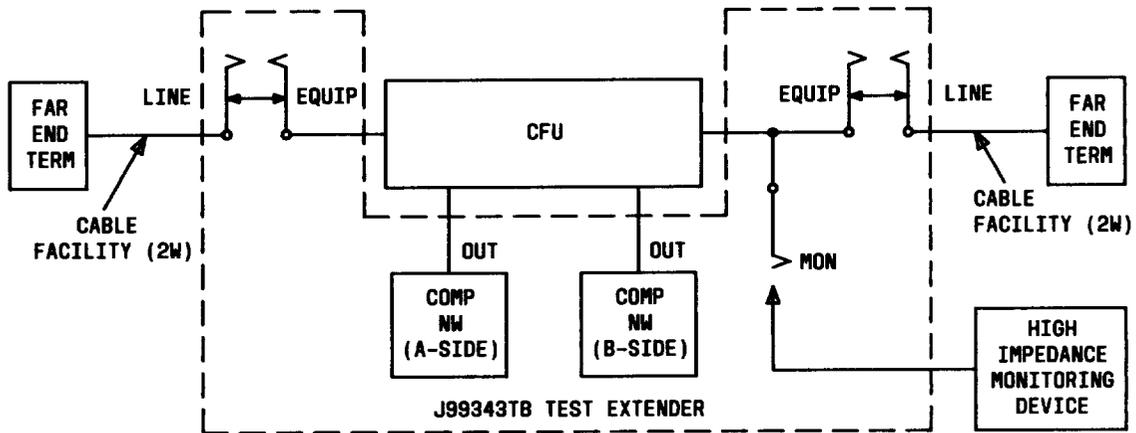

Fig. 12—Typical Circuit Configuration for Stability Margin Tests
12.05 It is assumed that the repeater-under-test has been adjusted to its final settings and all options are set as specified on the CLR. Idle state stability test procedures are given in the following procedure and an example test setup is shown in Fig. 12.
- 5 Connect the high impedance monitoring device to the monitor jack (MON) on the B-side of the J99343TB test extender (see Fig. 12).
Note: With the monitoring device connected as shown in Fig. 12, no sound other than battery noise should be audible.